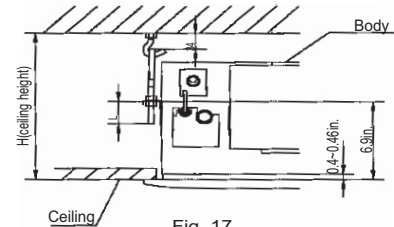

Fig. 17
The length could be calculated from Fig.17:
- The body's lower part should recess into the ceiling for 3/8 inches (10~12mm) (Refer to Fig.17).